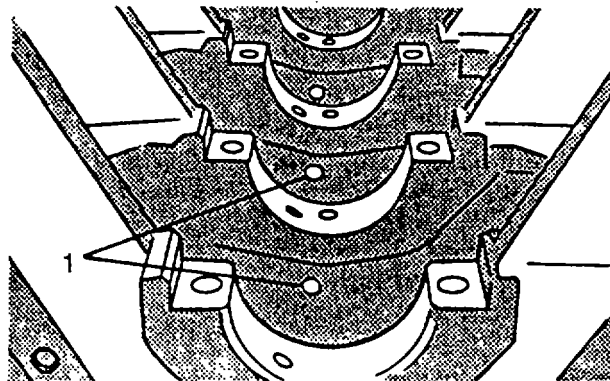

FIGURE 3-155. Inspecting piston Cooling Nozzles
- (1) Inspect each piston cooling nozzle (1, FIGURE 3-155) to make sure it is not plugged or damaged. Cooling nozzles deliver approximately 0.4 gallon per min (1.50 liters/min) oil flow.